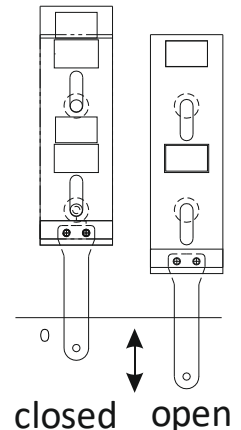

Fig.3.
1.Body; 2.Fire door; 3.Safety bar; 4.Niche; 5-I.Primary air regulator; 5-II.Secondary air regulator; 6.Handle; 7.Flue outlet; 8.Deflector; 9.Brick set (Fig.3); 10.Grate; 11.Ashtray;